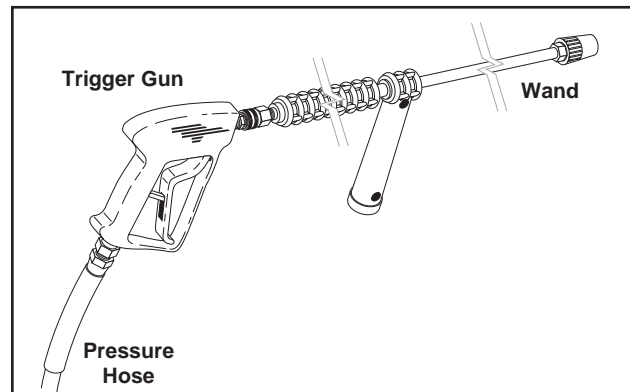

Figure 3 - Trigger Gun/Wand Assembly
3. Assemble wand components as shown in **Figure 3**.